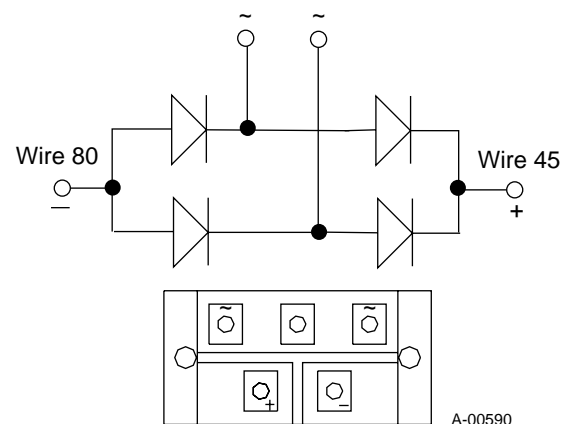

Figure 4-5 Testing Output Diode
4. The output diode (D2) assembly contains four standard diodes. The diodes are connected to form a full wave circuit with two diodes connected to the negative (-) terminal and two connected to the the plus (+) terminal. Test each diode in the forward and reverse direction as shown in Figure 4-5. A properly functioning diode conducts in the forward direction (plus to negative) and blocks in the reverse direction (negative to plus).